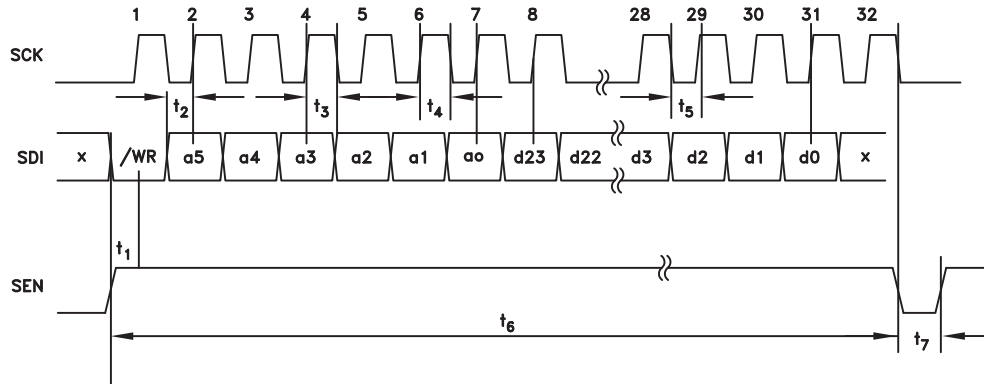

Figure 15. Serial Port Timing Diagram - Write Serial Port WRITE Operation
A typical WRITE cycle is shown in Figure 15.
- The Master (host) asserts both SEN (Serial Port Enable) and SDI to indicate a READ cycle, followed by a rising edge SCK. Note: The Lock Detect function is multiplexed onto the LD\_SDO pin. It is suggested that lock detect (LD) only be considered valid when SEN is low. In fact LD will not toggle until the first active data bit toggles on LD\_SDO, and will be restored immediately after the trailing edge of the LSB of serial data out as shown in Figure 15.
- The slave (synthesizer) reads SDI on the 1st rising edge of SCK after SEN. SDI high initiates the READ cycle (RD).